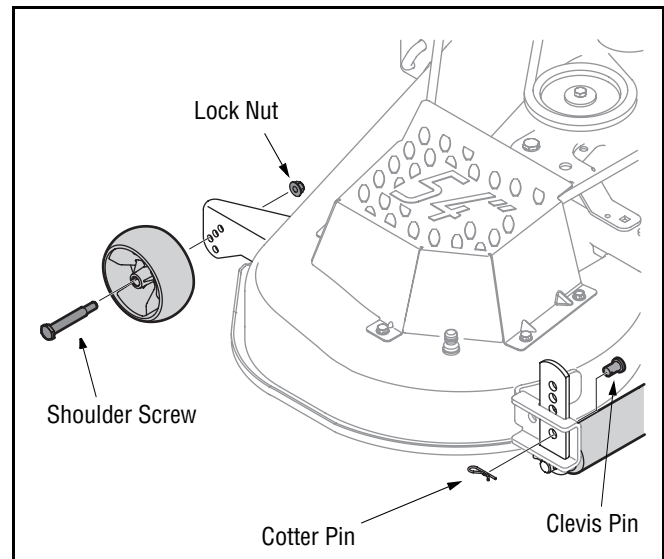

Figure 2
Place the tractor on a firm and level surface, preferably pavement, refer to Figure 2, and proceed as follows:
- Remove the clevis pins and hairpin clips from the deck roller brackets on the left and right sides of the cutting deck. See Figure 2.